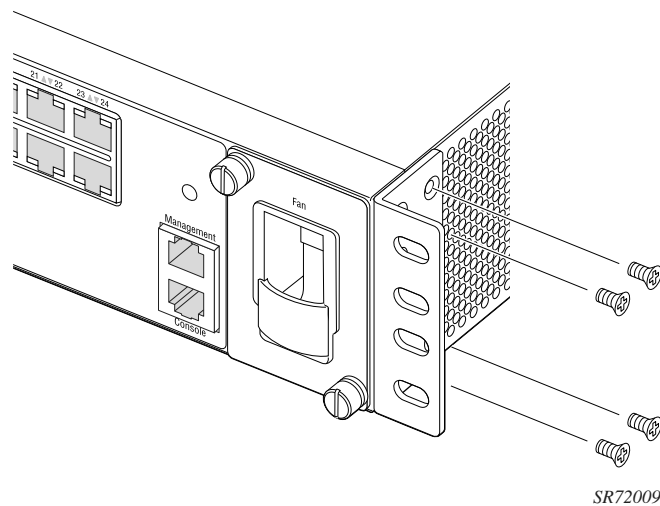

Figure 10: Attaching the Brackets
Step 1 Attach the brackets to the device using the screws provided in the Bracket Mounting Kit. See Figure 10.